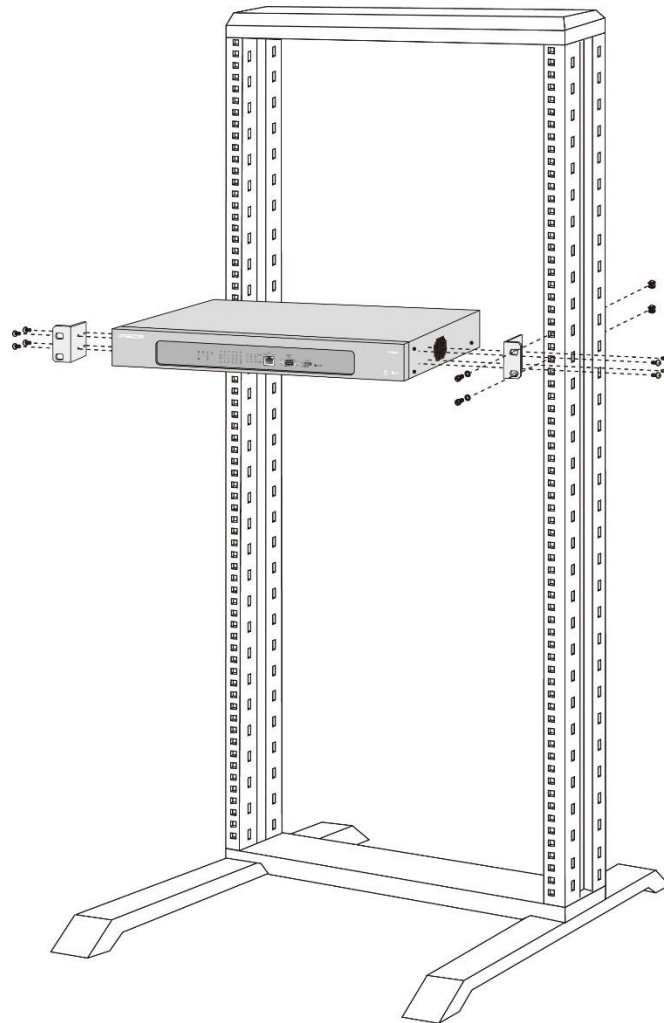

Figure 3.3.3.5-1 WTIM24 Rack Mounting Installation
- 1) Mount the left and right mounting brackets to the WTIM24 module using the eight (8) machine screws provided as shown in figure 3.3.3.5-1.
- 2) Mount the Module in the 19" rack with the four (4) machine screws, nuts and washers as shown in figure 3.3.3.5-1.